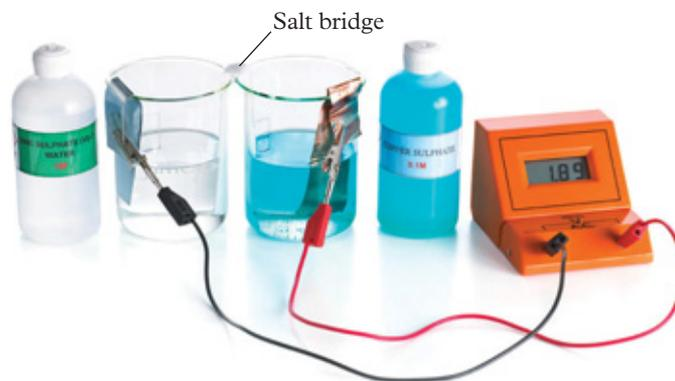

FIGURE 5 The experimental set-up of a galvanic cell
Galvanic cells typically incorporate two redox half-equations, which are contained within separate **half-cells**. In laboratory-based galvanic cells, the half-cells consist of a beaker that contains an ionic solution and an **electrode** made of a metal. The electrode can be an inert (unreactive) substance, such as platinum or carbon, or the metal of the solution (e.g. a copper electrode in a copper(II) sulfate solution) (Figure 5).